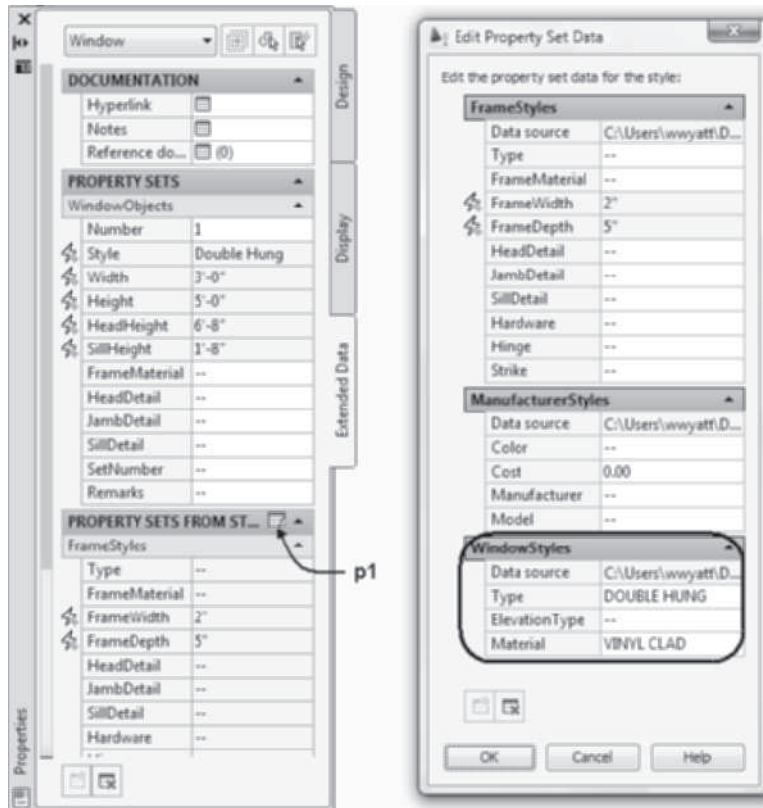

FIGURE 11.64 Inserting style-based data for the double hung window
15. Manual data for a window style are added in this step. Select the window tagged number **1** in the floor plan, right-click, and choose **Properties**. Choose the **Extended Data** tab. Click the **Edit Style Property Set Data** button shown at **p1** in Figure 11.64 to open the **Edit Property Set Data** dialog box. Scroll down to the Window Styles property set and type **DOUBLE HUNG** in the **Type** field and **VINYL CLAD** in the **Material** field as shown in Figure 11.64. Click **OK** to dismiss the **Edit Property Set Data** dialog box. Press ESC to end the selection. The data are added to the schedule for all windows of the style.